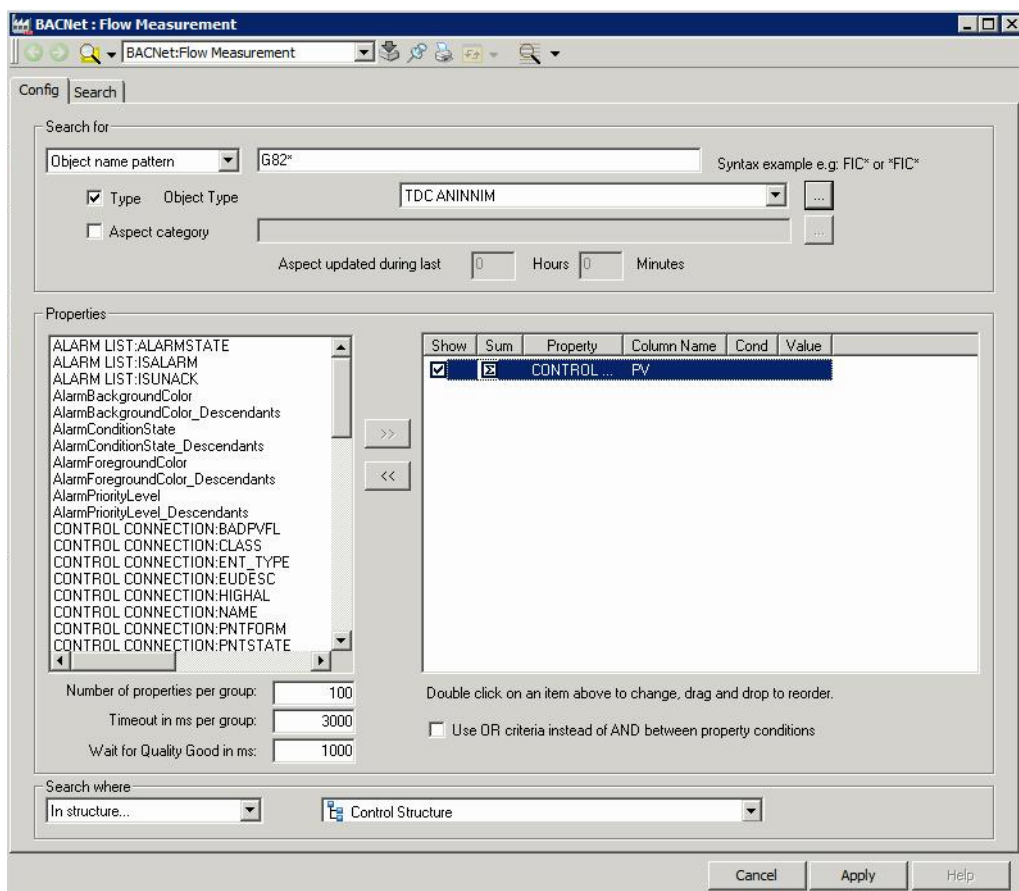

Figure 20. Specify Flow Measurement search
- After the test search, go back to the Config tab and specify the search to only present objects with names starting with G82...(Flow Measurement objects in the example). Use the Name field and enter the text G82. Also summarize the total Flow Measurement by checking the Sum field on the PV property as shown in Figure 20. Narrow the search to Control Structure to avoid duplicate hits on the same object.